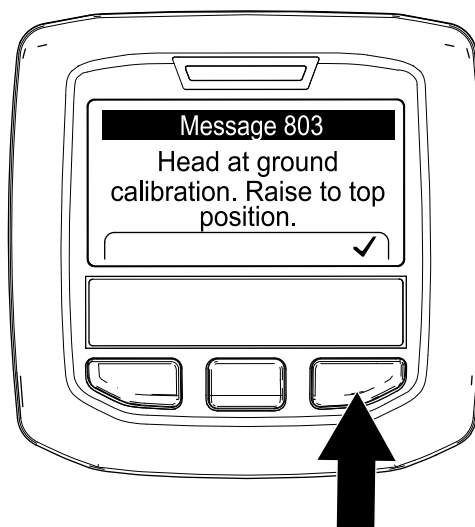

Figure 117
- The tines begin to penetrate the ground—press the right InfoCenter button (Figure 117) and run the Teach Ground Height application; refer to Running the Teach Ground Height Application \(page 36\).